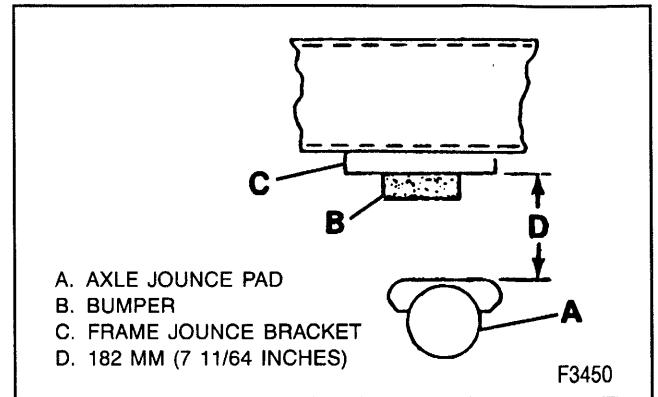

Figure 6—Rear Axle Trim Height
Adjust (Figure 6)
- The spring height to obtain a measurement of 182 mm (7 11/64 inches) between the top surface of the axle jounce pad and the bottom surface of the frame jounce bracket (figure 6).
- B. The front (20) and rear (12) spring and shackle (15) nuts to 110 N.m (81 lbs. ft.).